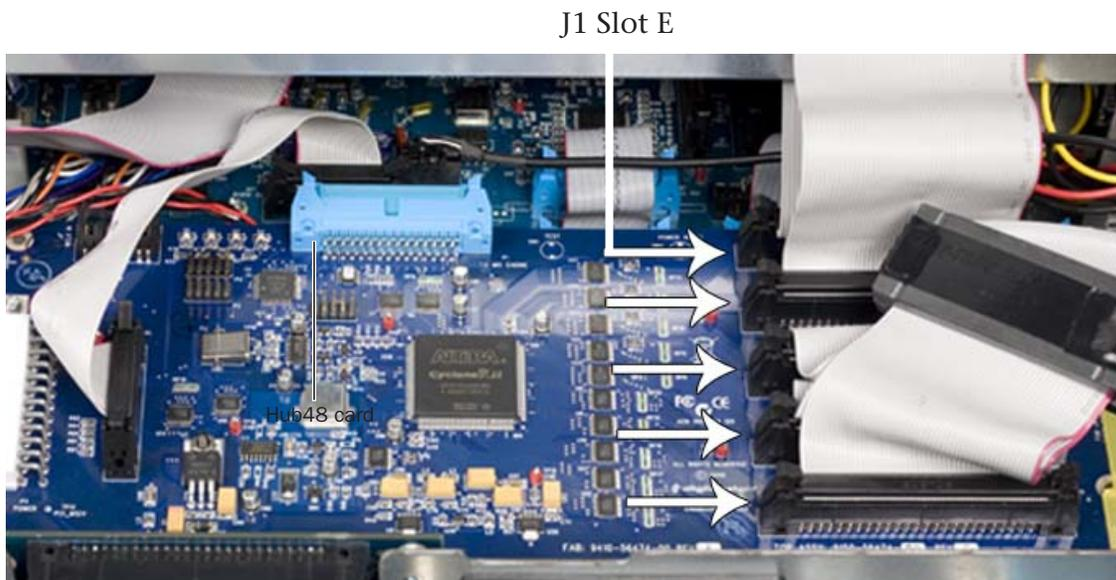

Figure 2-8 The Hub48 card and its five I/O card ports
1. Inside the console, locate the Hub 48 card and its five I/O card ports (Figure 2-8). Disconnect the ribbon cable connected to the back port (J1 Slot E on the Hub48 card). The other end of this cable is connected to either the slot E cover, or to an output card (if you installed an AO16 or IO16 card). This cable will be removed from the console entirely.